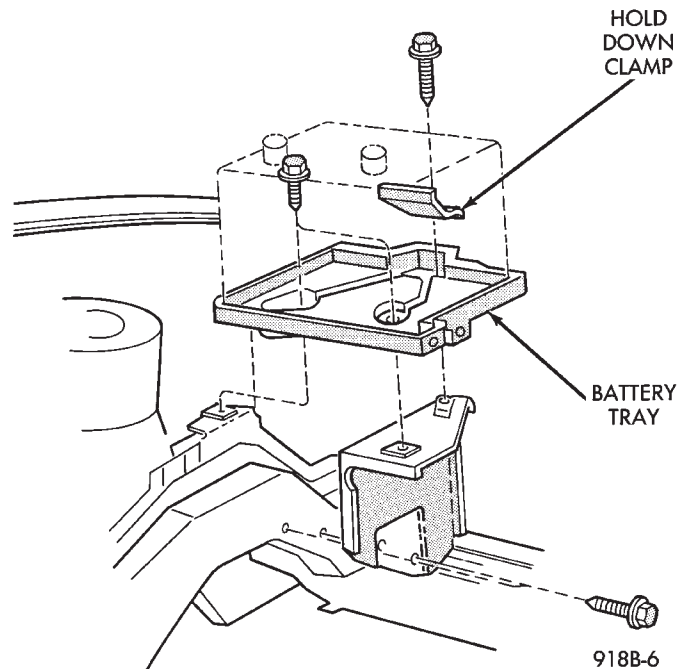
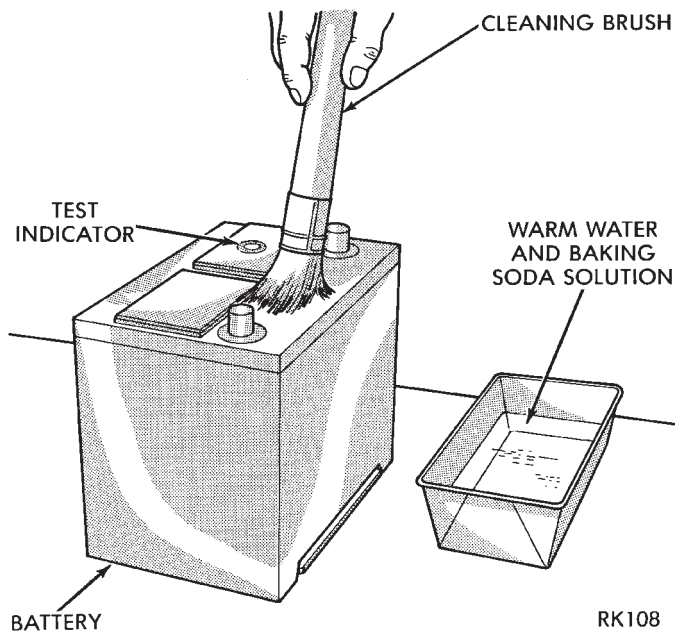
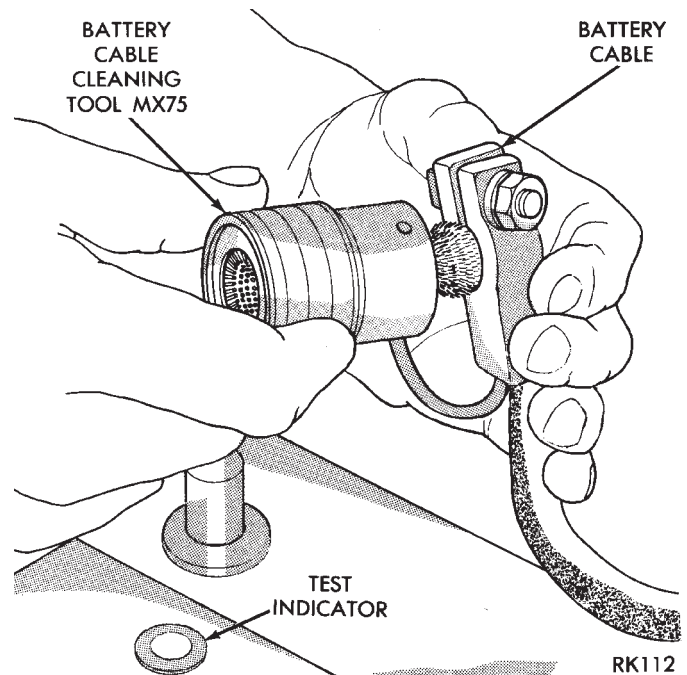
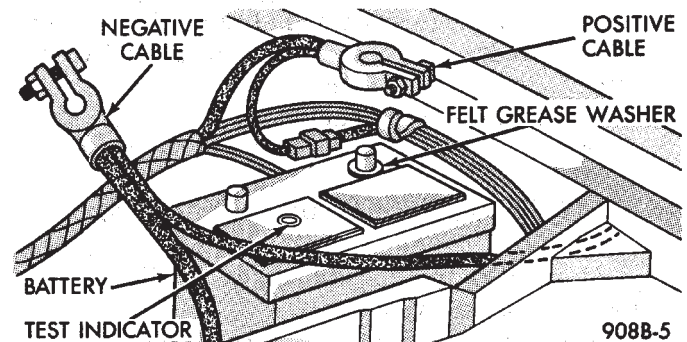

Fig. 3 Battery Hold-Down/Tray
Fig. 4 Cleaning Battery
Fig. 6 Cleaning Battery Cable Terminal
Fig. 7 Battery Cables Disconnected
(3) Remove battery hold down clamp (Fig. 3) and remove battery from vehicle.
(4) Clean top of battery with a solution of warm water and baking soda. Apply solution with a bristle brush and allow to soak until acid deposits loosen (Fig. 4). Rinse with clear water and blot dry with paper toweling. Dispose of toweling in a safe manner. Refer to the WARNINGS on top of battery.
(5) Inspect battery case and cover for cracks or leakage. If leakage is present battery must be replaced.
(6) Inspect battery tray (Fig. 3) for damage caused by acid from battery. If acid damage is present, it will be necessary to clean area with same solution described in Step (4).
(8) Clean inside surfaces of battery terminal clamps with a suitable battery terminal cleaning tool (Fig. 6). Replace damaged or frayed cables and broken terminal clamps.
(9) Inspect battery for proper or damaged hold down ledge.
(10) Install battery in vehicle making sure that battery is properly positioned on battery tray (Fig. 3).
(11) Install battery hold down clamp, making sure that it is properly positioned on battery.
(12) Place felt grease washer onto Positive (+) battery post.
(13) Connect battery cable clamps to battery posts making sure top of clamp is flush with top of post (Fig. 7). Install POSITIVE cable first.
(14) Tighten clamp nuts securely.